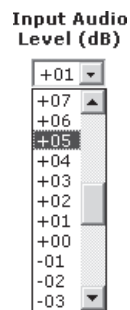

Figure 6-11 — Gain drop box
4. Click the Input Audio Level (dB) drop box. A drop down scroll box appears (figure 6-11).